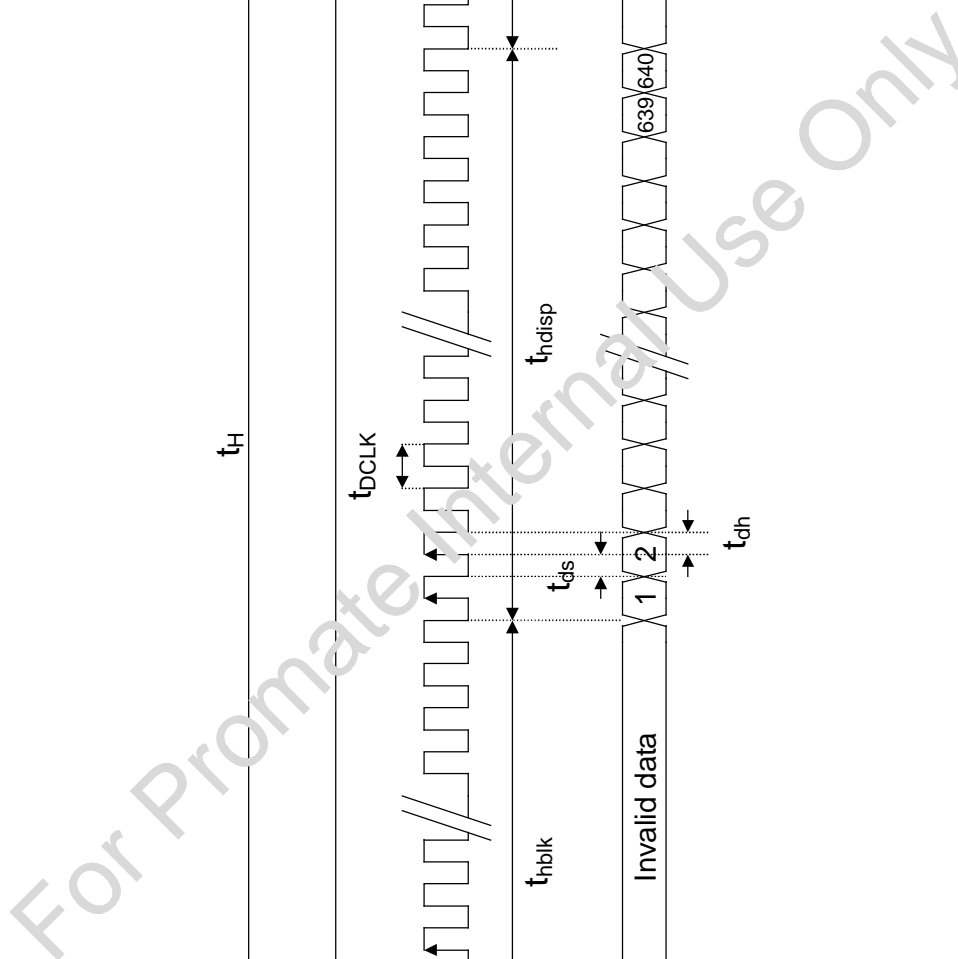
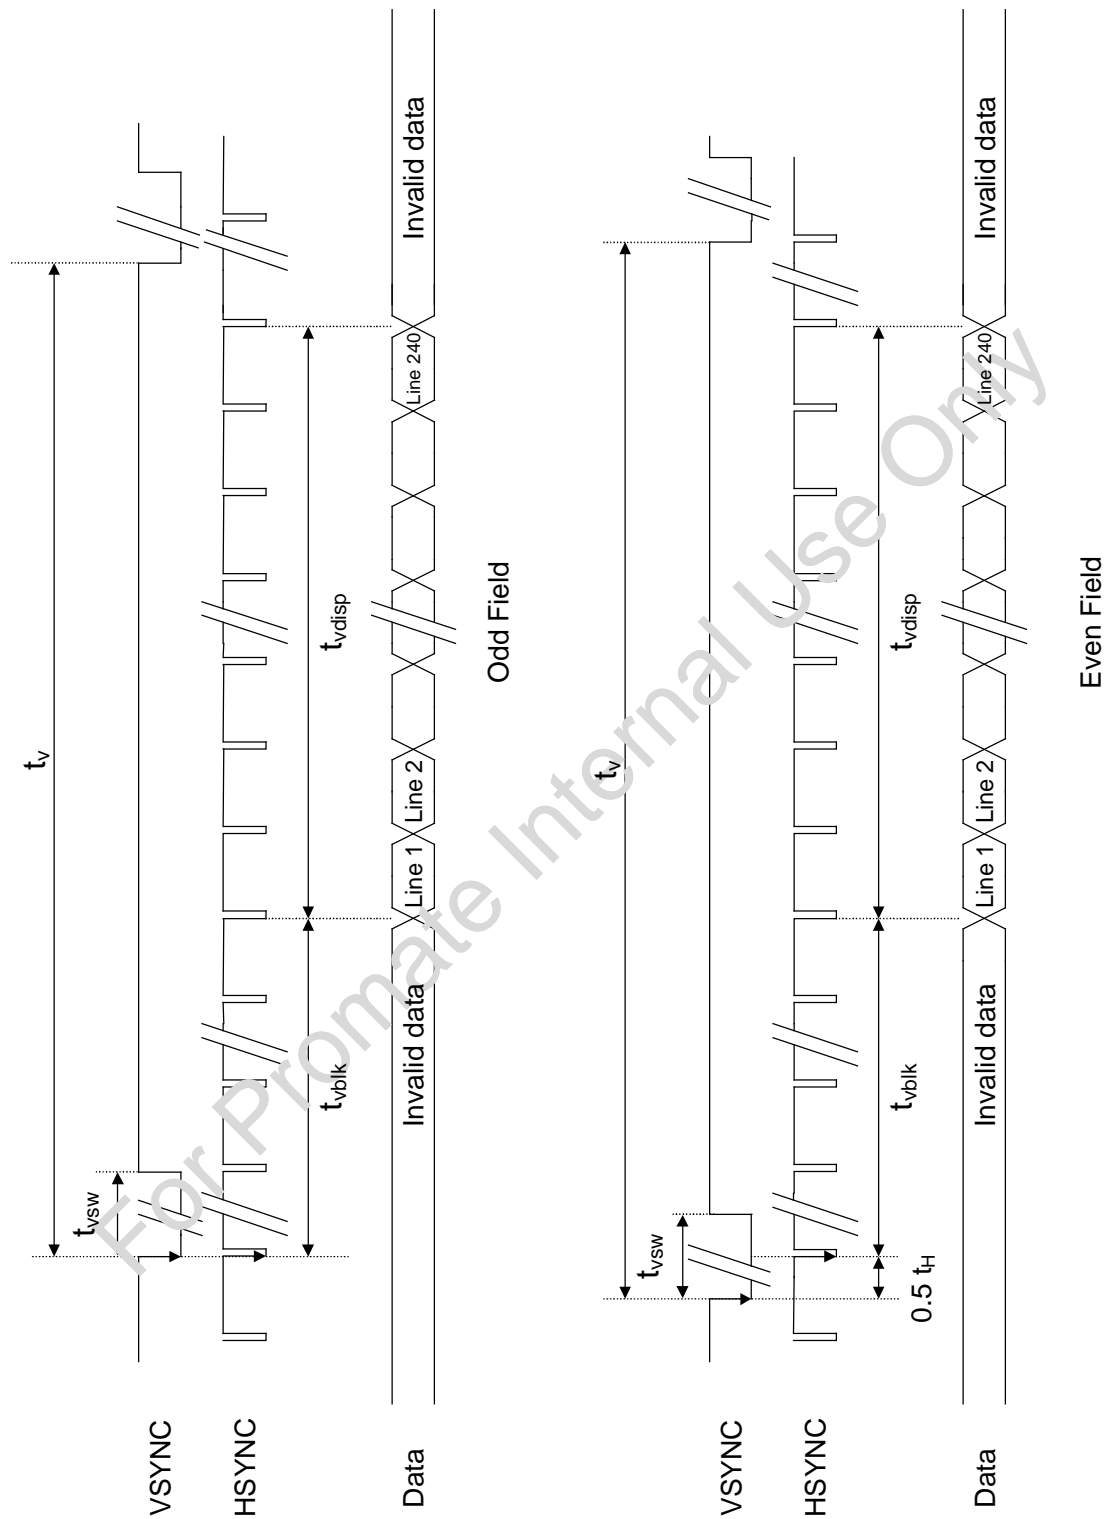

Fig.1 UPS051 Input Horizontal Signal
Fig.2 UPS051 Input Vertical Signal
a. UPS051 timing specifications (refer to Fig. 1, Fig. 2)